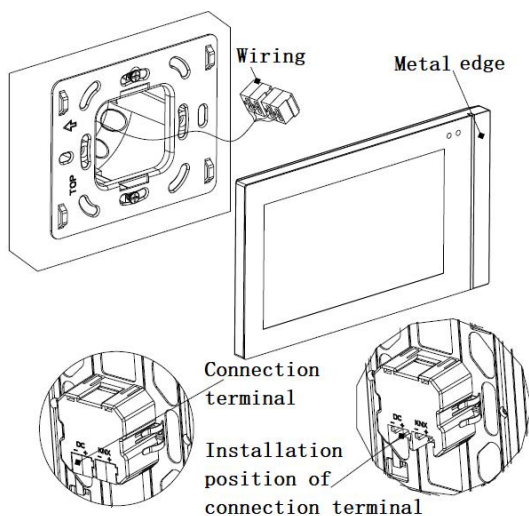

Fig.3.3.3.2
2. (1)Remove the connection terminal on the device and connect it correctly according to the wiring instructions. After wiring, install the terminal to the corresponding position, then the wiring installation is finished, as shown in Fig.3.3.3.2.